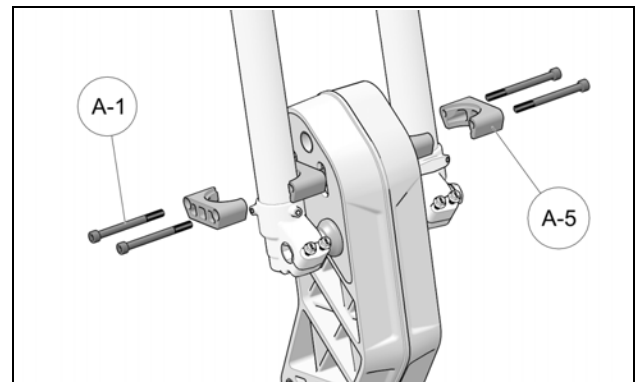

Figure 20
- Position Exterior Clamps (A-5) on the fork. The clearance bore must be positioned upward. Insert the assembly bolts in the clamps. Do not tighten assembly. Figure 20.